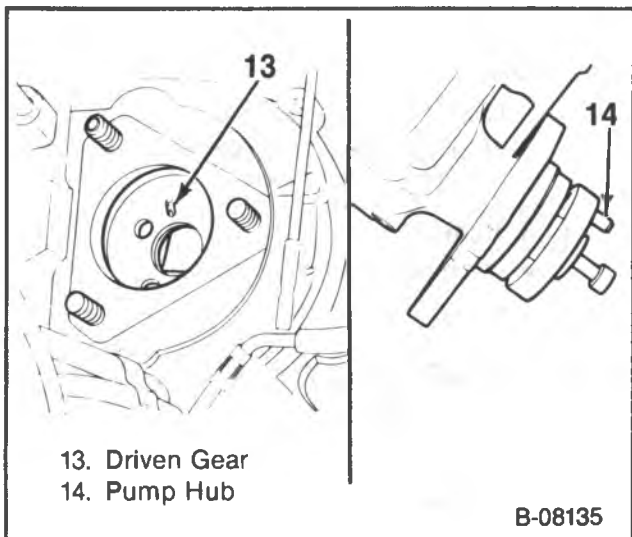

Figure 9 — Injection Pump Locating Pin
- Align the locating pin on the pump hub (14) with the slot in the injection pump driven gear (13) (figure 9).
- Align the locating pin on the pump hub with the slot in the injection pump driven gear (13) (figure 9).